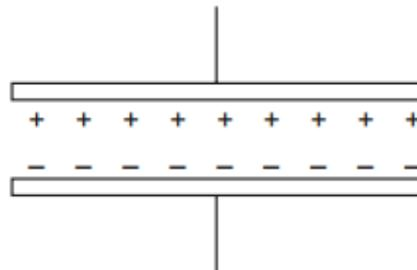

Fig. 2.1
- 2** A simple air-spaced capacitor can be made by placing two metal plates close to each other. When the capacitor is charged the plates have equal and opposite charges as shown in Fig. 2.1.